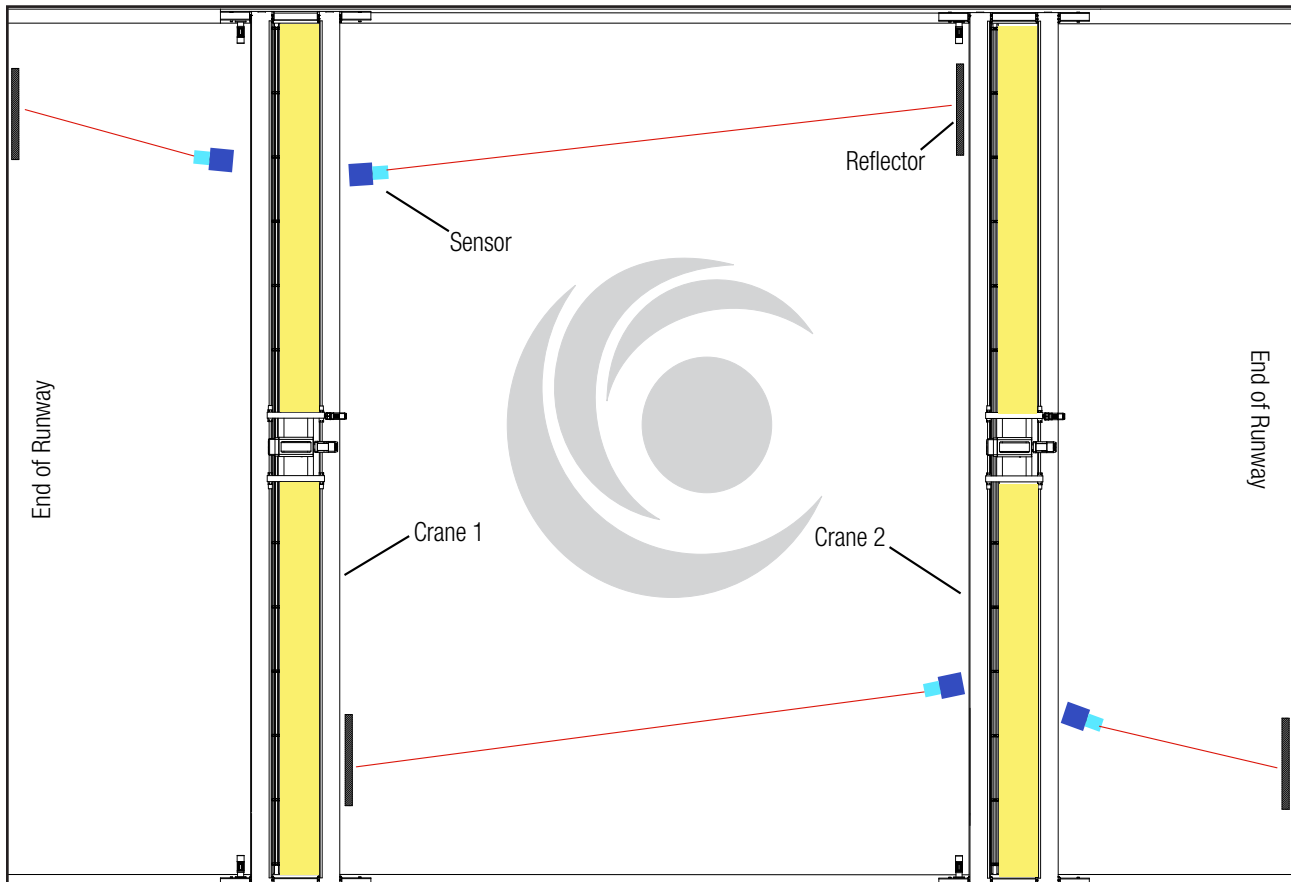
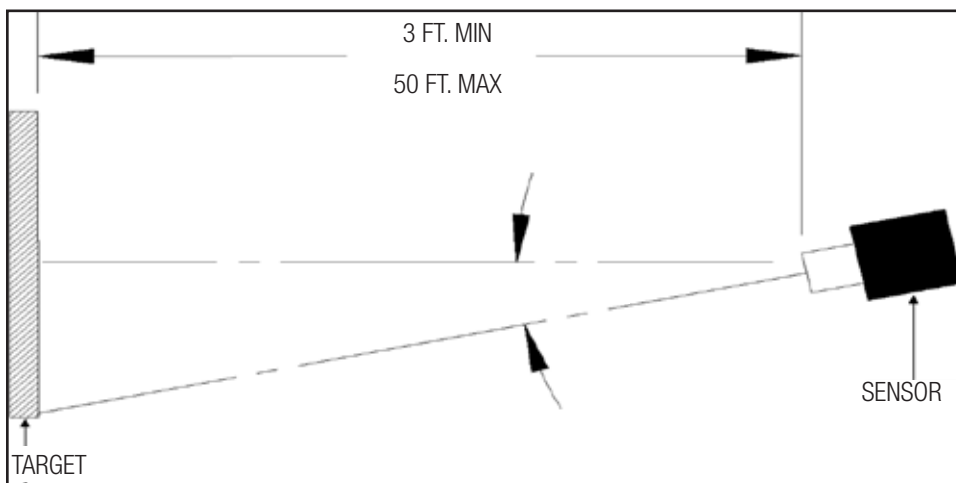

Figure 8-1 General Sensor Target Installation
Figure 8-2
Included below are general sensor target installations, your specific installation may vary. See **Figure 8-1** and **Figure 8-2**.
- Reflector plate must be centered and aligned with the sensor as shown in **Figure 8-2**.